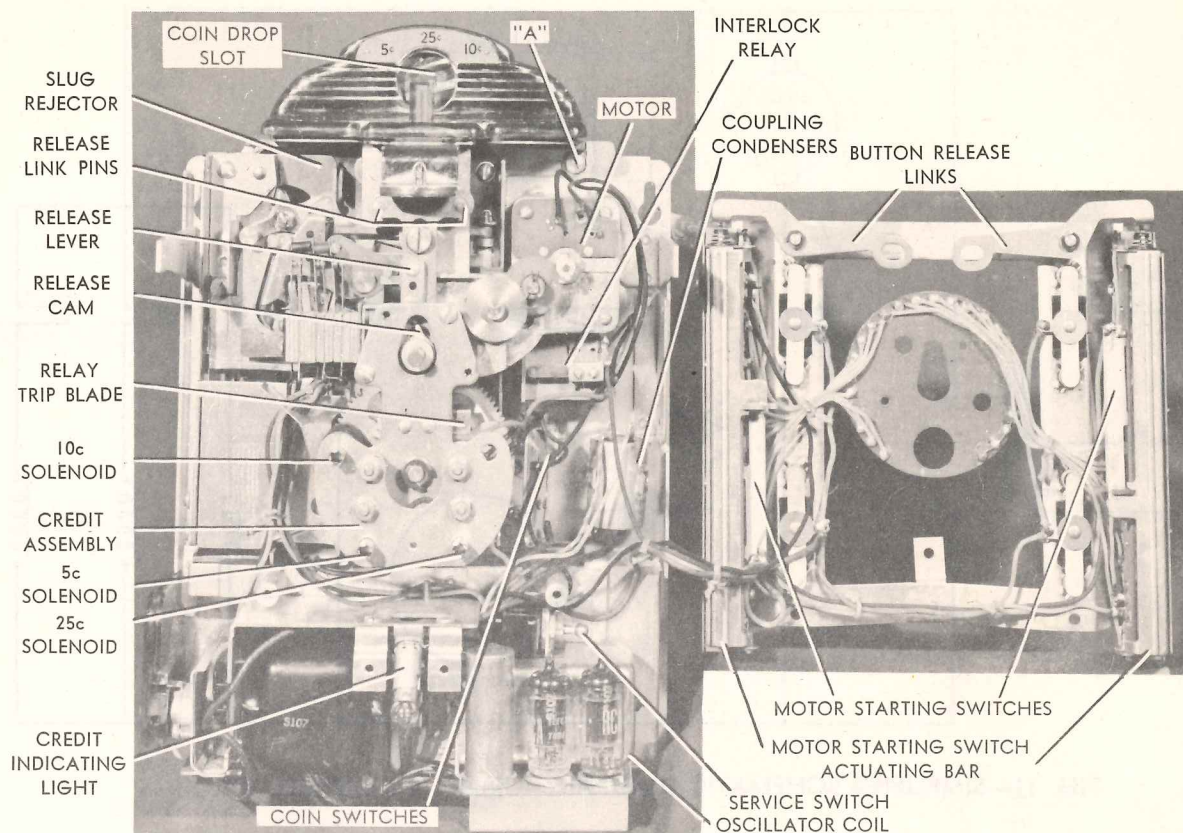
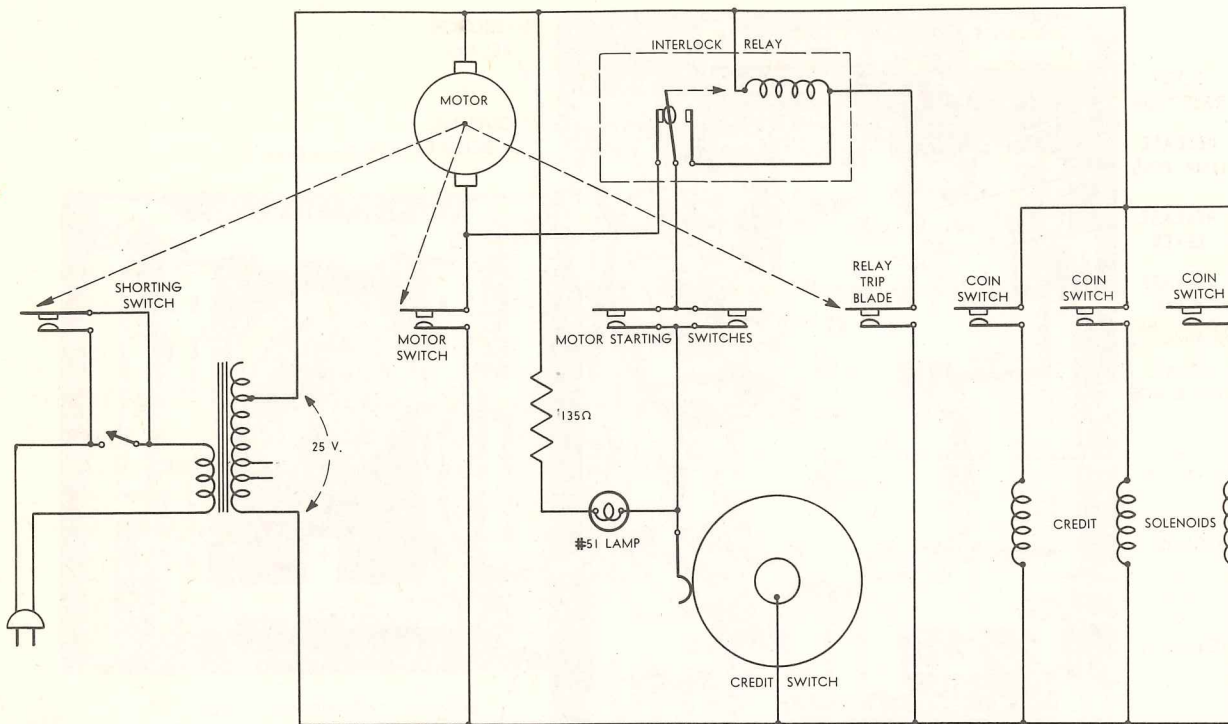

FIG. 10
FIG. 11—SIMPLIFIED SCHEMATIC DIAGRAM—CREDIT & CONTROL CIRCUITS
A service switch (see Fig. 10) is provided for convenience in tests requiring continuous r.f. output—steady signal.
There are two motor starting switches—one on each of the two selection switch assemblies. When a selection switch is operated by pressing a selector button, the shaft of the switch moves an actuating bar and closes the contact of a motor starting switch. With the credit switch closed by a credit solenoid, the motor starting switch, when closed, will complete the circuit to the motor through the normally closed contacts of the interlock relay. This circuit may be traced in Fig. 8 and Fig. 11.
A relay trip blade (Fig. 10) connects to the interlock relay coil as shown in Fig. 8 and Fig. 11. When the motor starts and the release lever falls, the lower end of the lever grounds the trip blade so the relay is energized and opens the motor starting circuit. In order that the motor will continue to run, completing the operating cycle after the circuit through the interlock relay has been opened, a motor switch is closed when
the latch bar release lever falls off the release cam. Its connection in the motor circuit can be traced in Fig. 8 and Fig. 11.
The motor switch (Fig. 10 and Fig. 14) is operated by the release lever through the switch link. The switch is held open by the lever in the rest position of the Wall-O-Matic. When the lever falls, the switch closes, and a complete circuit is provided to the motor, independent of the circuit through the credit switch, the motor starting switch, and the interlock relay contacts. Near the end of the operating cycle, when the release lever is being raised by the release cam, the motor switch is opened and the motor comes to a stop with the release lever in the raised position. With the lever raised, the latch bars will have released the selector buttons and the motor starting switch will be open. The circuit to the interlock relay coil, through the relay trip blade will be open so the motor starting circuit through the relay contacts will be restored.
Another switch, the "shorting" switch is connected to the line switch so the power to the Wall-O-Matic cannot be turned off during an operating cycle. It is controlled by the release lever in the same manner that the motor switch is operated. The connections for this switch may be traced in Fig. 8 and Fig. 11.
The slug rejector may be removed for cleaning or inspection by taking out the screw marked "A" in Fig. 10 and lifting up by the coin drop slot.
6. Swing the assembly aside, hinging on the connecting leads on the right side as shown in Fig. 10.
Continuous r.f. output from the Wall-O-Matic is desirable when aligning or checking impulse signal strength at the Selection Receiver. For a continuous output—generally called "steady signal"—turn the lever of the service switch (see Fig. 10) toward the back plate. One pole of this switch (marked S10, Fig. 8) grounds the oscillator cathode circuit for continuous operation of the oscillator. The other pole of the switch connects the oscillator output to the AC line. *Caution: Be sure to reset the service switch to the normal*